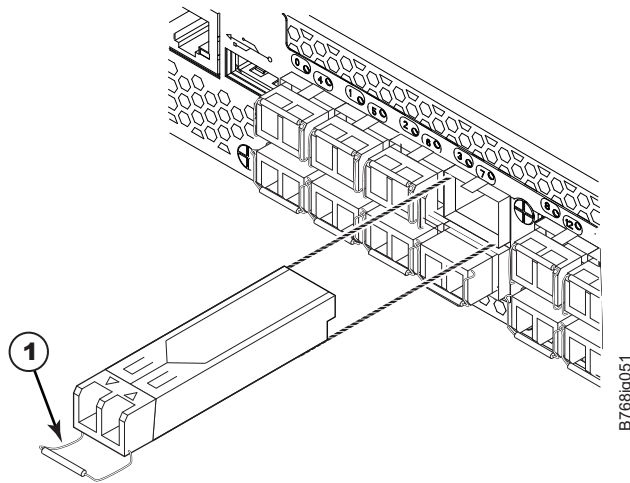

Figure 39. Replacing an optical transceiver
2. Pull the bail (wire handle) **1** away from its pivot point and out, sliding the transceiver out of the port (Figure 39).